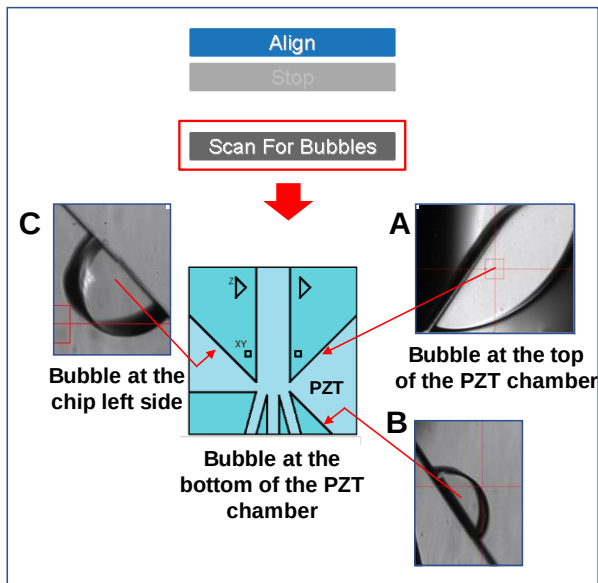

Figure 18. The Scan For Bubbles Feature
1. Click the “Scan for bubbles” button in the Chip Alignment window (Fig. 18).
3. The top chip PZT area will be scanned first (Fig. 18A), lower PZT area will be scanned second (Fig. 18B), and the left chip area will be scanned last (Fig. 18 C).